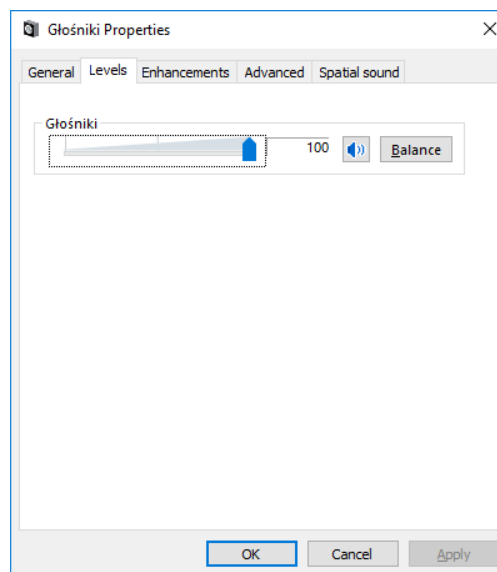
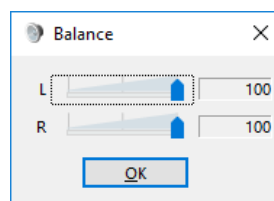

Figure 5.5 //Recording level settings
Figure 5.6 //Balance window
In the Properties window (Figure 5.5), on the Levels tab, it is necessary to set maximum volume level and centered balance by clicking on the Balance button and setting maximum value (100) for both channels (Figure 5.6).